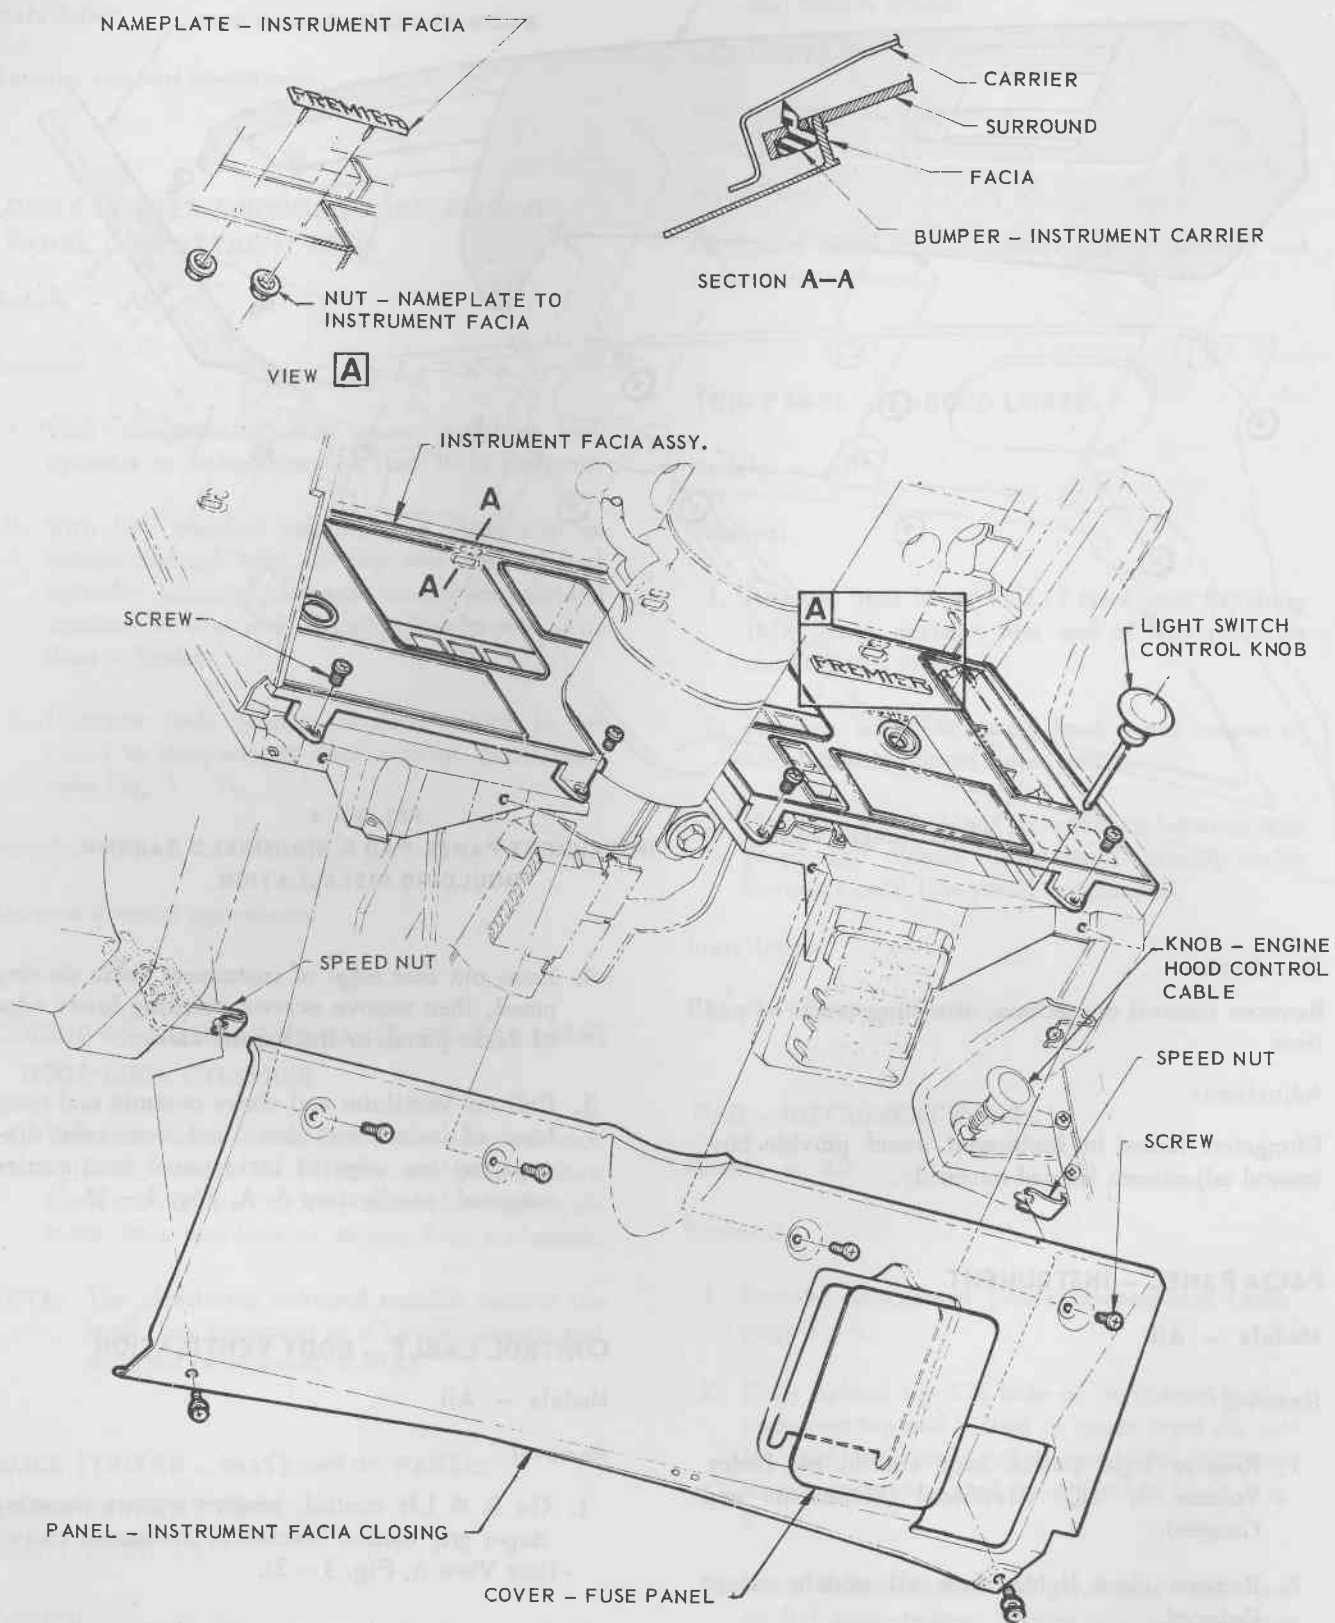

FIG. 3 - 5
1. On R & LH control, remove screws securing finger grip control bracket to instrument carrier (see View A, Fig. 3 - 2).
2. From under instrument panel, slacken off screw attaching control cable casing clip to side of plenum chamber air duct (see View B, Fig. 3 - 2).
3. Disengage end of cable attached to plenum chamber air duct (see View B, Fig. 3 - 2) and on LH control cable, ease back clinch over tabs securing centre of cable to base of plenum chamber prior to removing control cable assembly.
1. Remove screws securing closing panel to base of instrument panel, instrument carrier and engine hood control cable bracket (see Fig. 3 - 5).